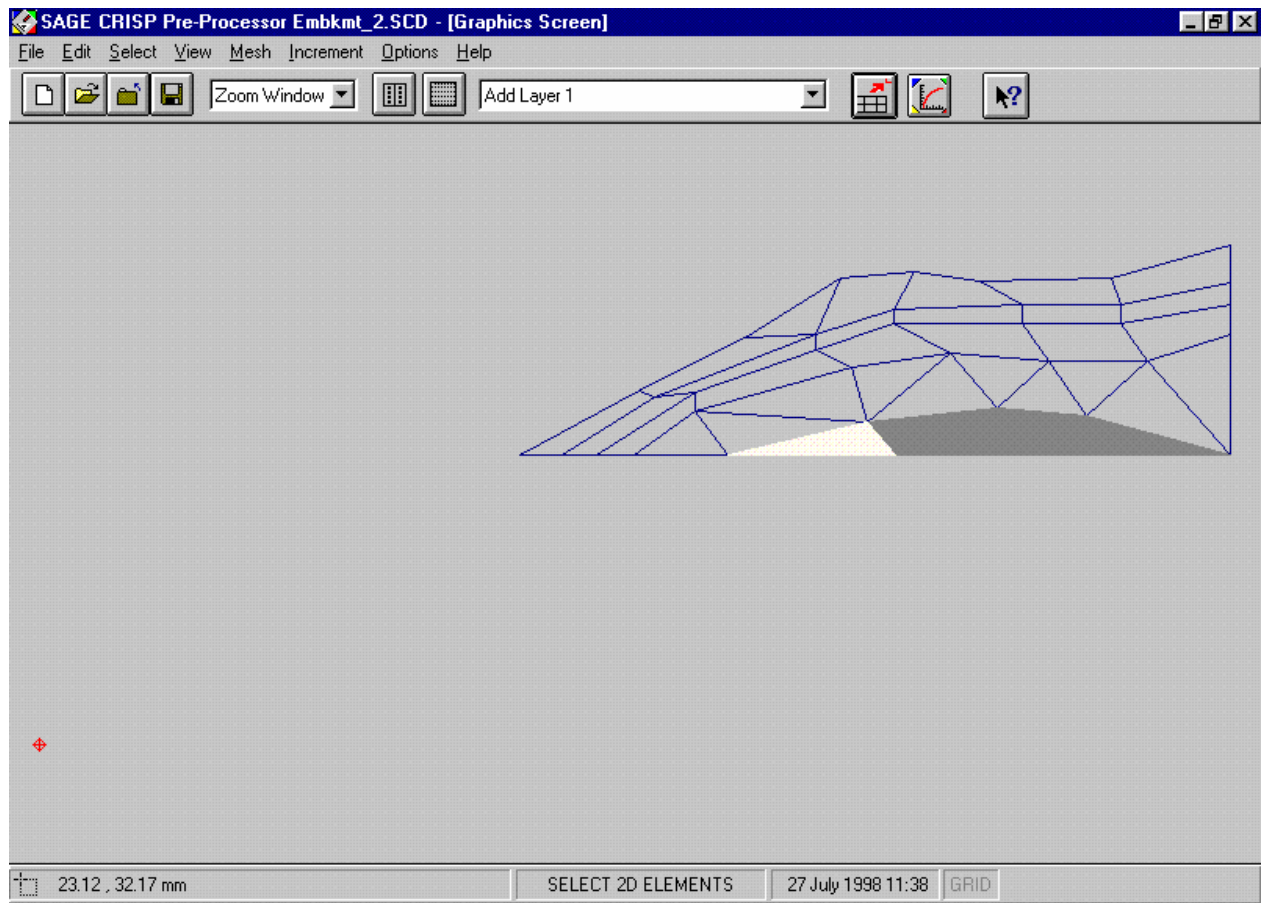
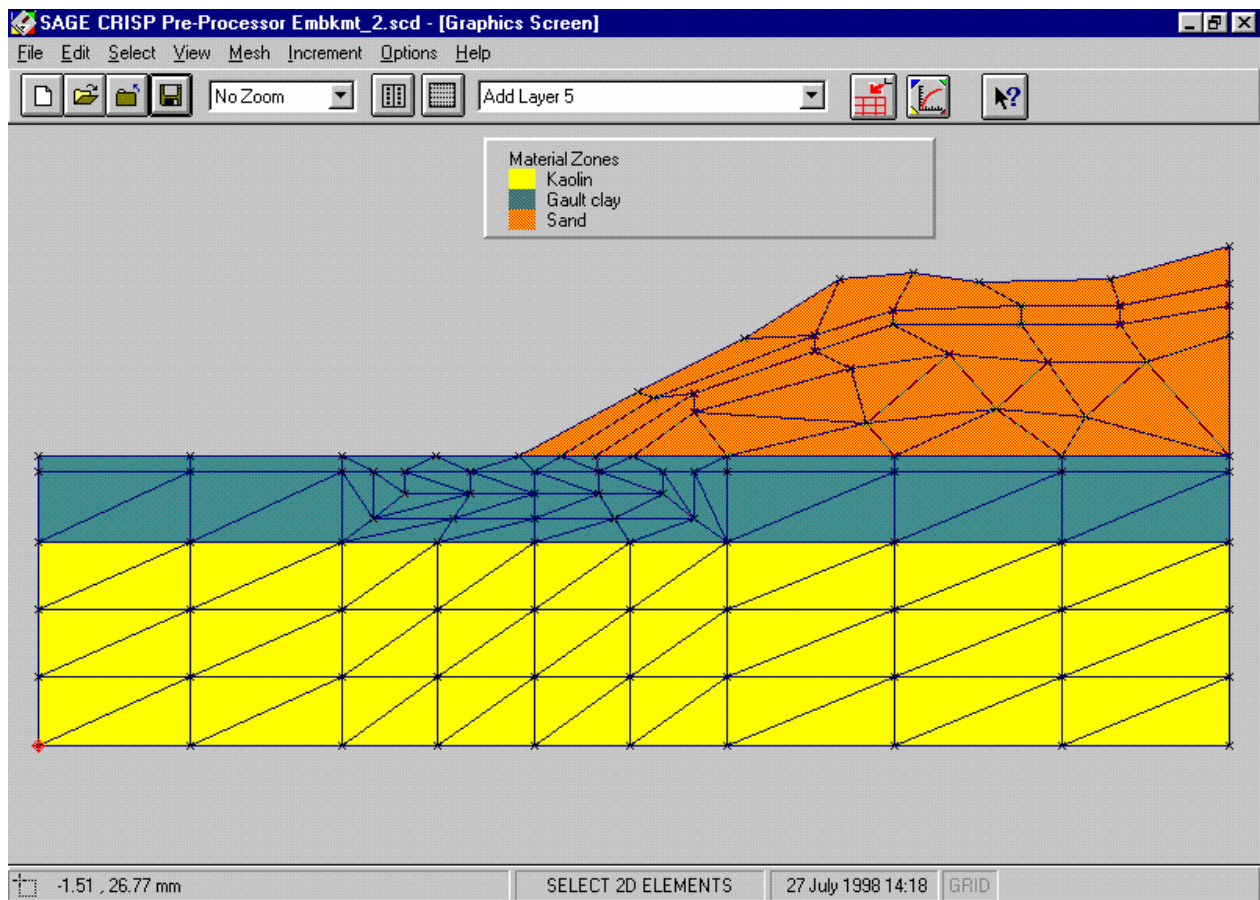

Figure 6-21: Add Layer 1
Figure 6-27: Fully Assigned Material Zones
Tip The best way of exactly copying this mesh is to draw the elements layer by layer (see Figure 6-21 to Figure 6-27)
- Step 6** In the Select menu, click on **Clear Selection** and select the elements shown in Figure 6-21 by clicking on them.